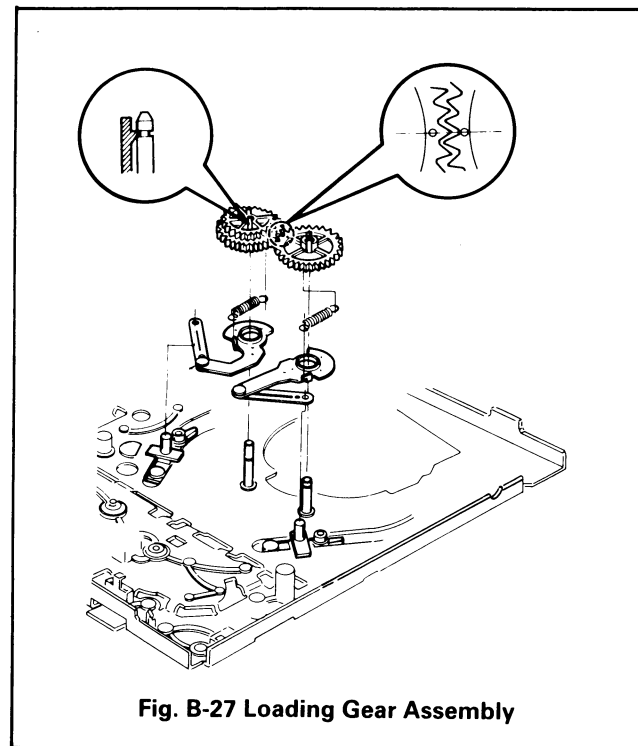

Fig. B-27 Loading Gear Assembly
- ① Use a Hexagonal wrench to remove set screw.
- ② Take notice that the P2 and P3 Slant Assembly should not be changed from their original place.
27. Loading Gear Assembly(L),(R) (Fig. B-27)